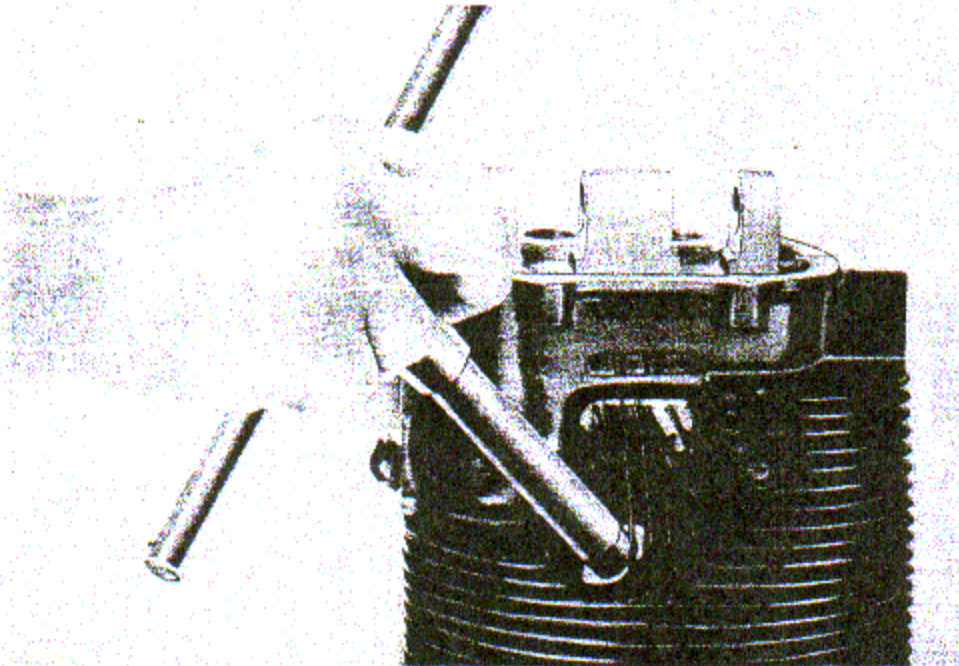

Figure 5-6. Expanding Spark Plug Helicoil
g. Attach the expanding and staking tool to a suitable "T" handle drive; coat the tool thread with anti-seize compound, Specification MIL-T-5544, and turn it into the Helicoil. (See figure 5-6.) The tool will expand the Helicoil tightly into the tapped hole, and the final threads of the tool will force the teeth of the Helicoil into the cylinder head metal to prevent accidental removal. Back out the expanding tool, and inspect the new Helicoil. Turn a spark plug into the hole to check for free thread fit.